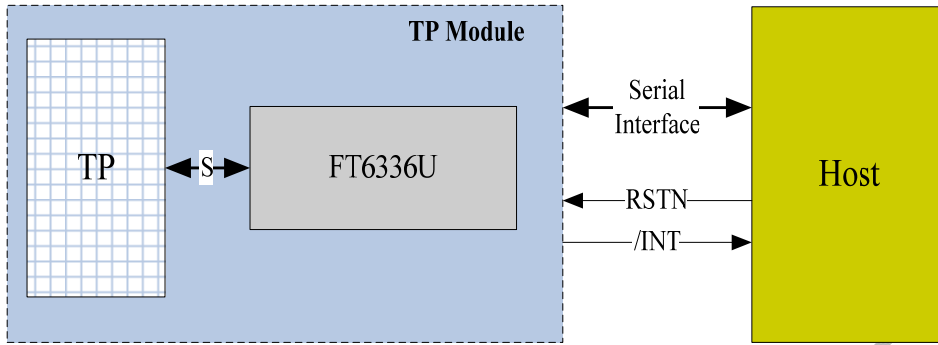

Figure 2-3 Host Interface Diagram
**Host Interface** Figure 2-3 shows the interface between a host processor and FT6336U. This interface consists of the following three sets of signals: